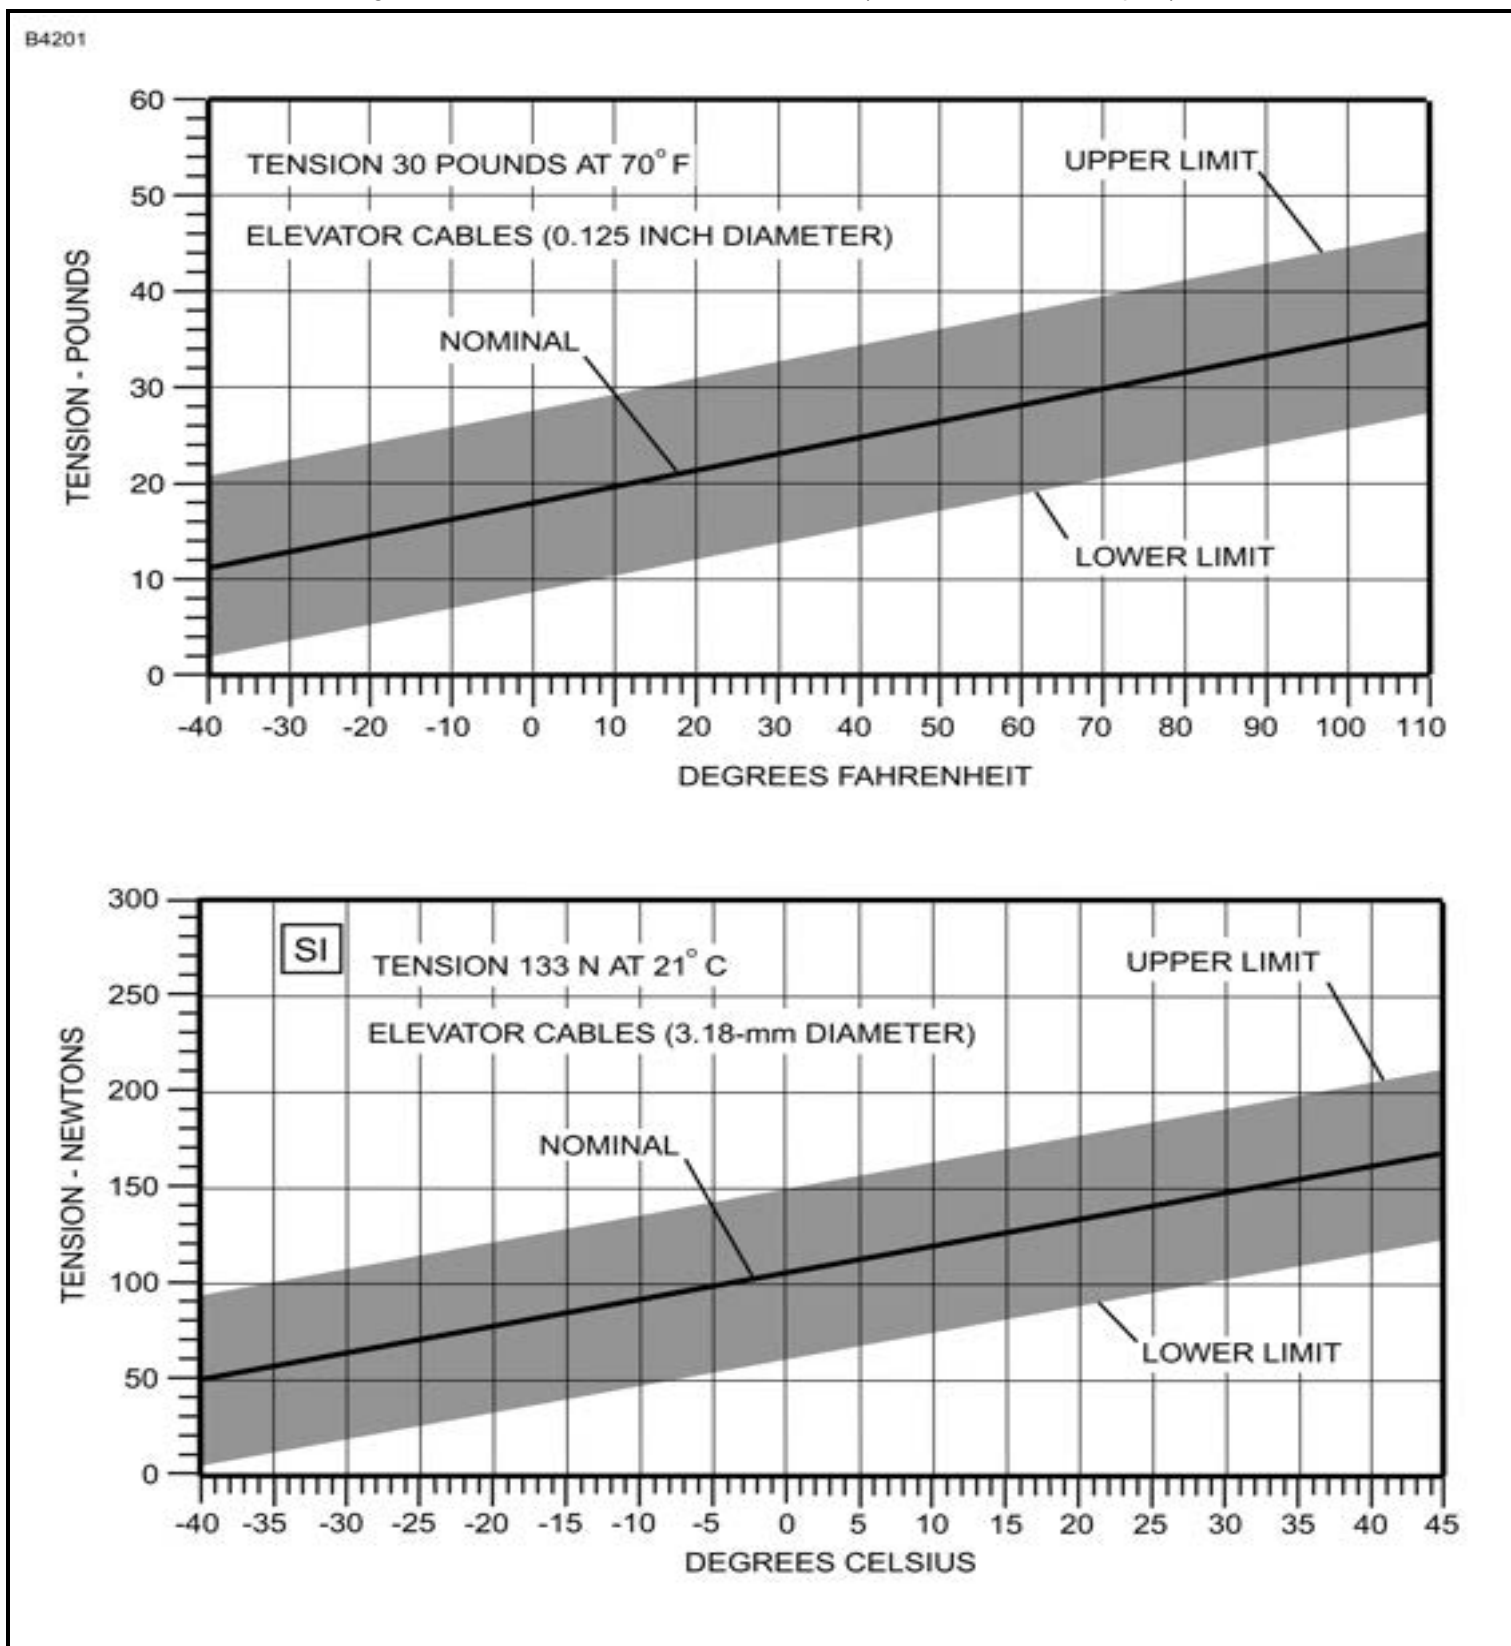

Figure 205 : Sheet 1 :
- A. Elevator Removal (Refer to Figure 205).
- (1) Remove the stinger (310DB). Refer to Chapter 6, Access/Inspection Plates - Description and Operation.
- (2) Remove the cotter pin, nut, washers, bolt, and disconnect the push-pull tube from the elevator trim actuator.
- (3) Remove the nut, washer, and bolt that attaches the torque tube to the arm assembly.
- (4) Support the elevator, and remove the nut, washers, and bolts from the elevator hinge brackets.
- (5) Remove the elevator.
B. Elevator Installation (Refer to Figure 205).
- (1) Attach the elevator to the horizontal stabilizer at the hinge points and install bolts, washers and nut.
- (2) Attach the torque tube on the elevator to the arm assembly and install bolt, washer, and nut.
- (3) Install bolt, washers, nut, and cotter pin that connect the push-pull tube to the elevator trim actuator.
- (4) Do a check for the correct operation of the elevators. Refer to Elevator Control Adjustment/Test.
- (5) Install the stinger (310DB). Refer to Chapter 6, Access/Inspection Plates - Description and Operation.
- With the GFC-700 Autopilot system, 35 pounds, +5 or -5 pounds (155.69 N, +22.24 or -22.24 N). Refer to Figure 205.
- (5) Mount an inclinometer on one elevator.
- (6) While you keep the elevator streamlined with the horizontal stabilizer, set the inclinometer to 0 degrees. Ignore counterweight areas of the elevators when you streamline the elevators.